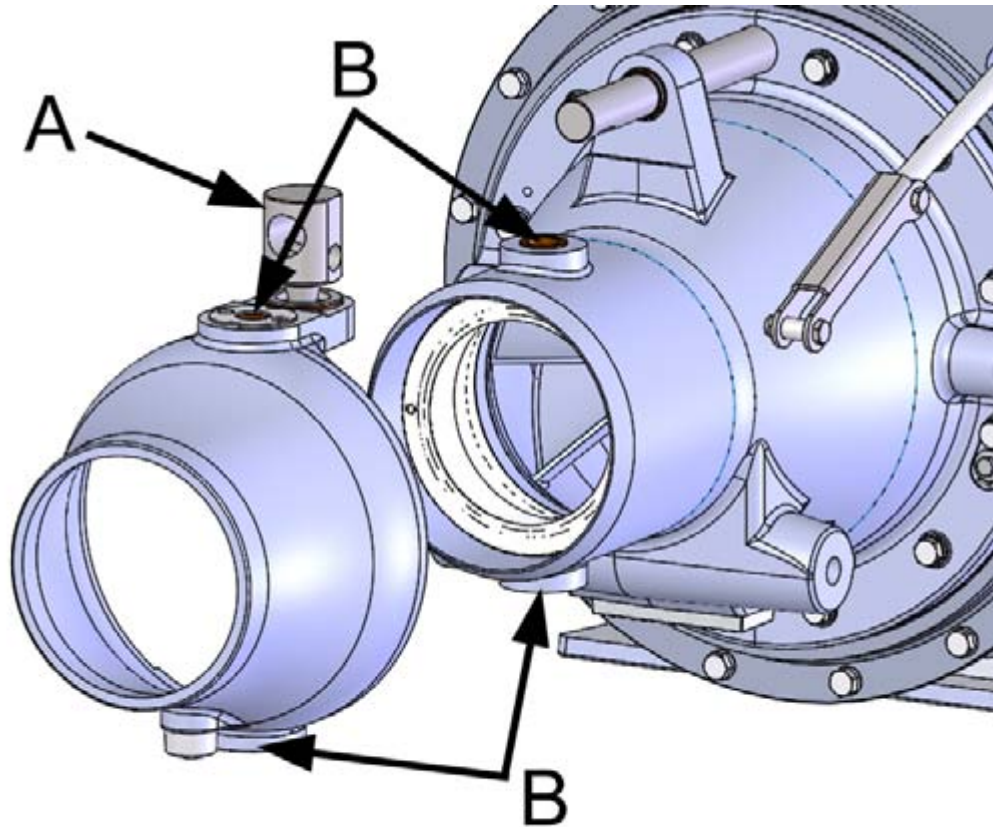

Figure 62. Installing the steering nozzle
1. Fit the steering nozzle and the stator steering shaft (figure 62, point A) into place, making sure that the spindle holes (figure 62, point B) are aligned. At the same time, push the shaft of the steering shaft onto the steering shaft.